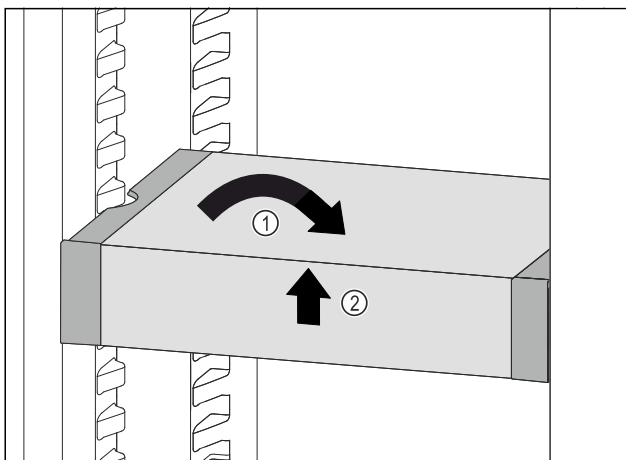

Fig. 170
- Set VarioSafe straight. Fig. 170 (1)
- Lift VarioSafe at the front. Fig. 170 (2)